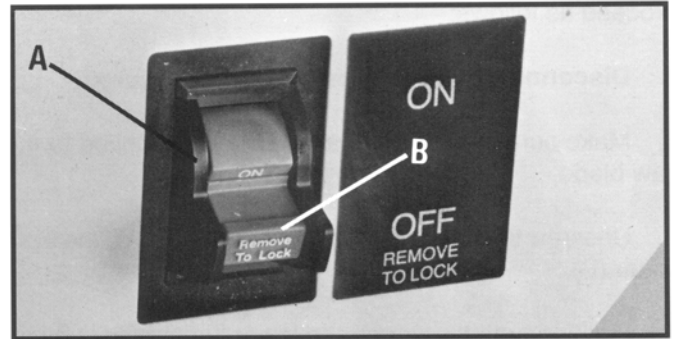

Fig. 13
The switch (A) Fig. 13, is located on the arm of the band saw. To turn the saw ON, move the switch to the "up" position. To turn the saw OFF, move the switch to the "down" position. **WE SUGGEST THAT WHEN THE SAW IS NOT IN USE, THE SWITCH BE LOCKED IN THE "OFF" POSITION.** This can be done by grasping the switch toggle (B) and pulling it out of the switch. With the switch toggle (B) removed, the switch will not operate. However, should the switch toggle be removed while the saw is running, the saw can be turned OFF once, but cannot be restarted without inserting the switch toggle in the switch.